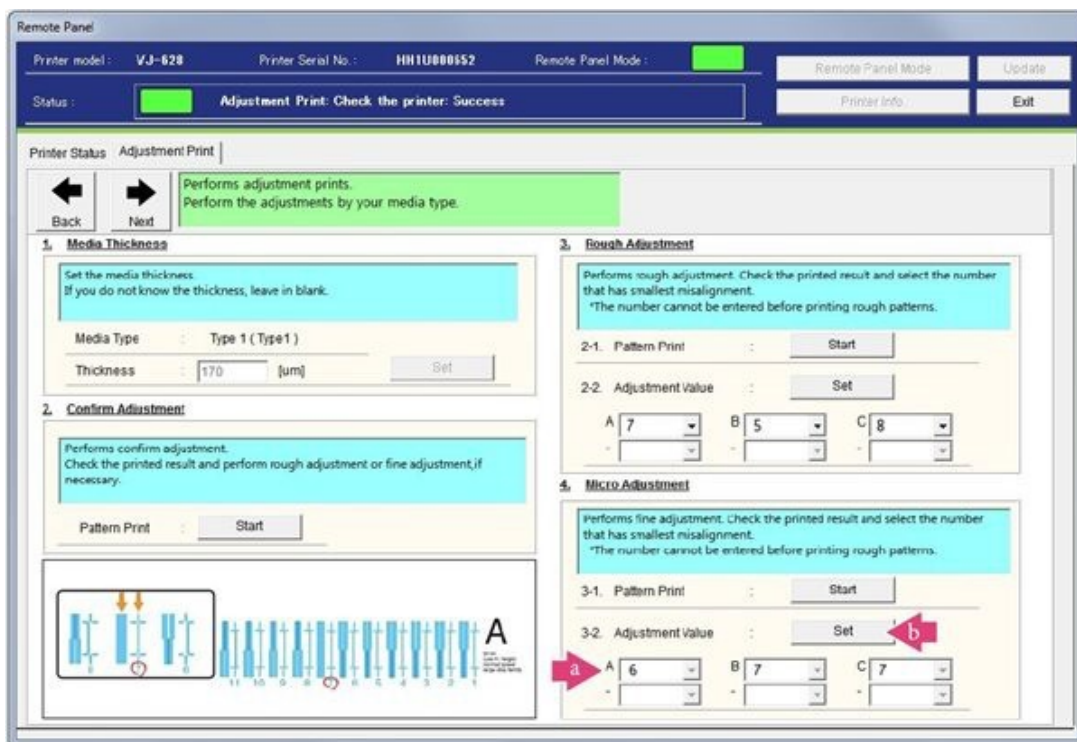

Figure 89
76. When you have determined the best numerical choice to use for each pattern group. Enter the numerical values into the **Adjustment Value boxes (a)** and select **Set (b)**. The new values are now entered. See Figure 89.